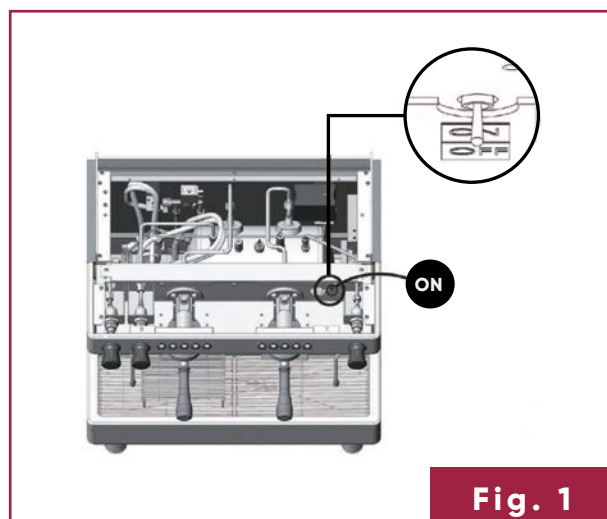

Fig. 1
1. To program your machine, turn the output volume setup switch ON (Fig. 1).